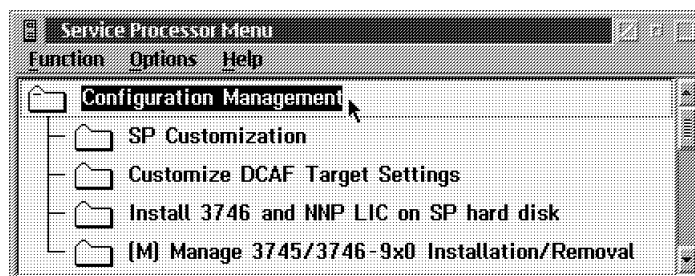
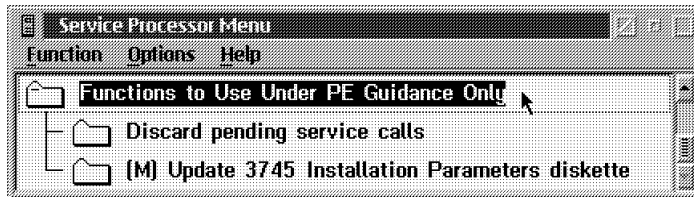

Figure 1-14. Service Processor Configuration Management Functions
Figure 1-20. Service Processor PE Functions
**Note:** All maintenance functions are identified by an **(M)** preceding the text (example: see Figure 1-14 function **(M) Manage 3745/3746-900 Installation/Removal**).
Figure 1-14 to Figure 1-20 on page 1-10 show the expanded function options.